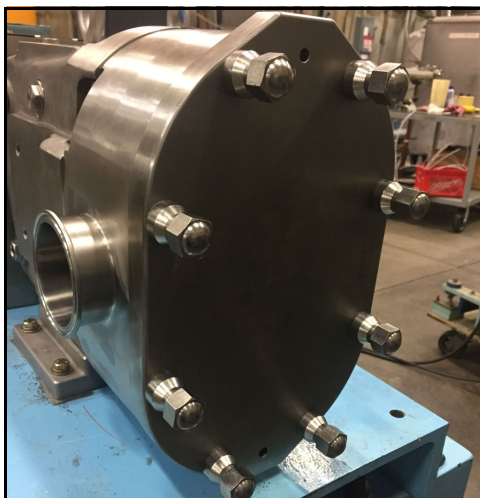

Figure 191 - Cover installed
- Figure 191 shows the cover installed.